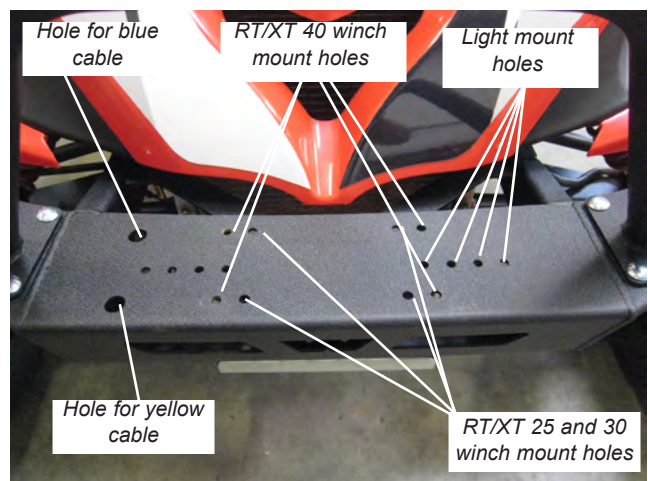
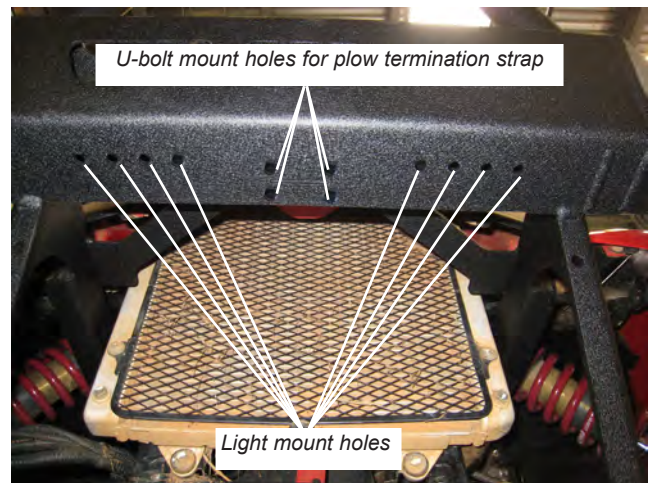

Figure 9
Figure 10
1. WARN winch mounting holes are shown in Figure 9. Pull yellow cable through front hole and blue cable through rear hole after sliding conduit over top both cables. 1/4" ID conduit is to be used for RT/XT25 winches; 3/8" ID conduit is to be used for RT/XT30/40 winches.
2. If no winch is mounted on bumper the set of holes, as shown in Figure 9, can be used to mount a set of lights on top of bumper. If winch is used, there are holes on bottom of bumper, as shown in Figure 10, that can be used to mount a set of lights and u-bolt for plow termination strap (see plow mount installation instructions).